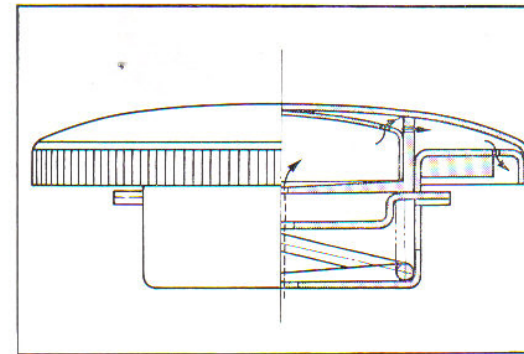

Fig. 6.15 Filler cap cross-section showing breath path
(1) Note that a faulty flow is also caused by the dirty tank filler opening or lines. (Fig. 6.15)
(2) The position "RES" is used when the fuel level is low. When the lever is turned from "ON" to "RES" the motorcycle may be driven from 50 to 60 km with the 1.8 liter reserve.